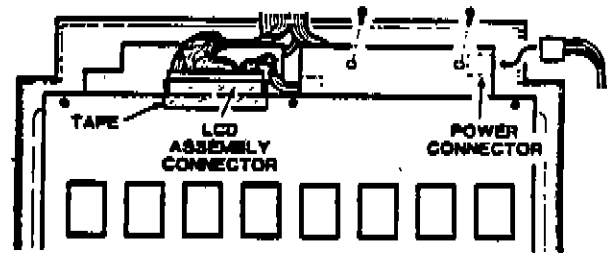

Figure 3-22. Display Board Connector
Refer to Figures 3-22 and 3-23 for the following steps.
3. Disconnect the cable connector from the LCD assembly connector (see Figure 3-22).
4. Disconnect the power cable connector from the contrast and brightness assembly, as shown in Figure 3-22.